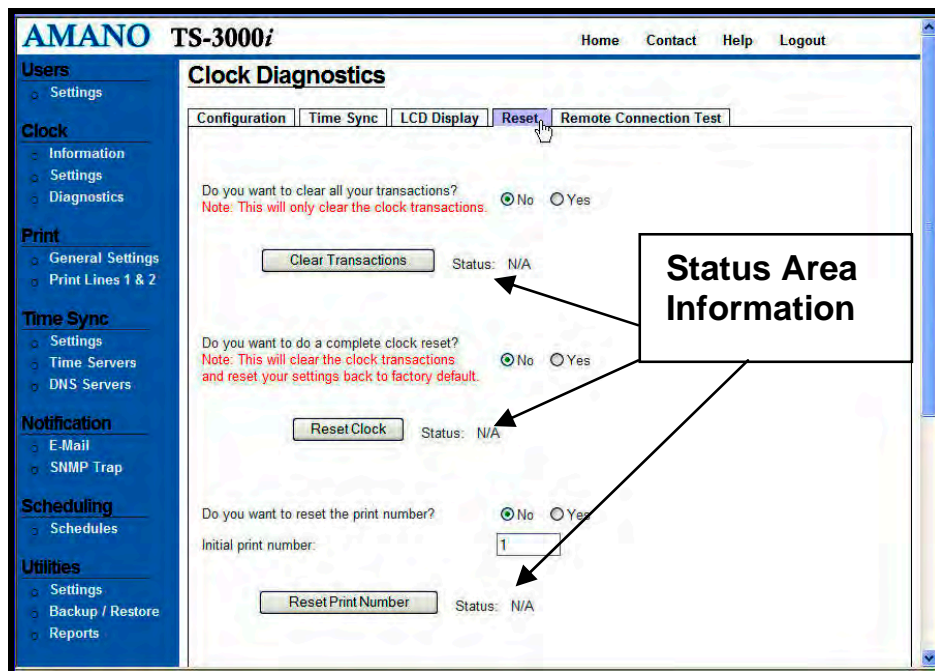

Figure 7-5: Clock Reset
- Step 1.** Click on the **Diagnostics** link under **Clock**, and the **Clock Diagnostics** screen will appear. Then click on the **Reset** tab and the Reset screen will appear (see *Figure 7-5*).